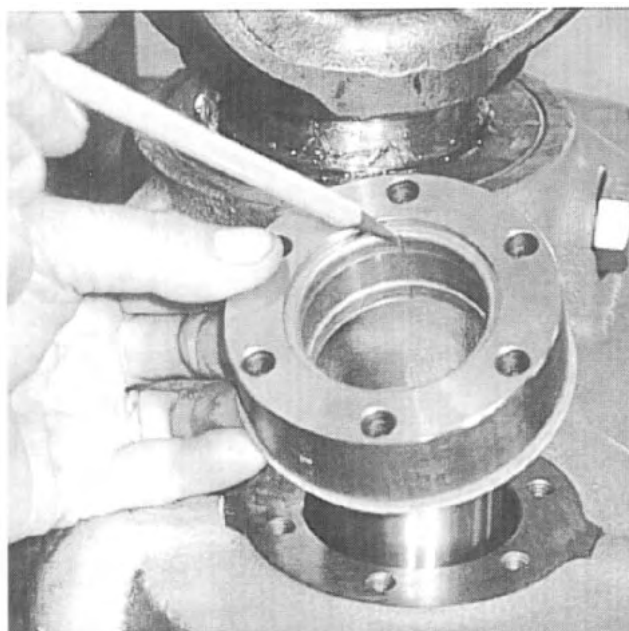

Fig. 115
7. Reinstall the spacer ring assembly, with the bushing and gasket, onto the end of the intermediate shaft. *See Fig. 115.*